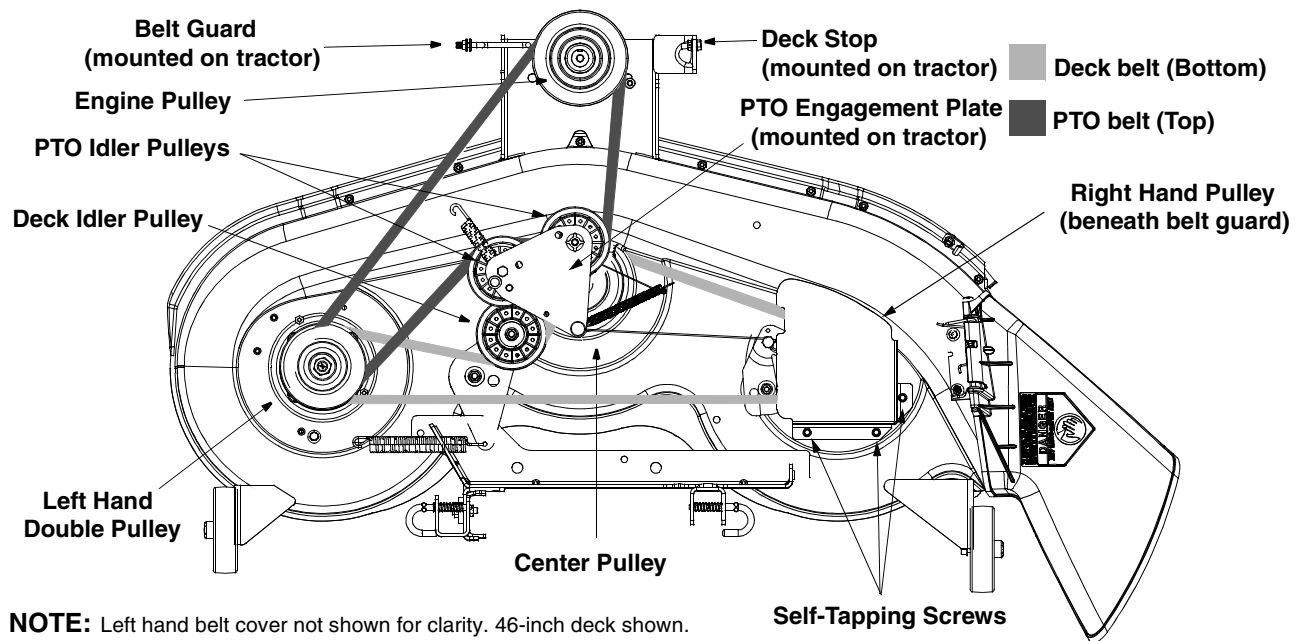

Figure 15
- Remove the PTO belt from around the bottom portion of the engine pulley and from around the two PTO idler pulleys found on the PTO engagement plate. See Figure 15.
- Route the new belt as shown in Figure 15, around the upper portion of the left hand deck pulley, PTO idler pulleys and the lower portion of the engine pulley. OEM belt part numbers are listed in the table on the following page.